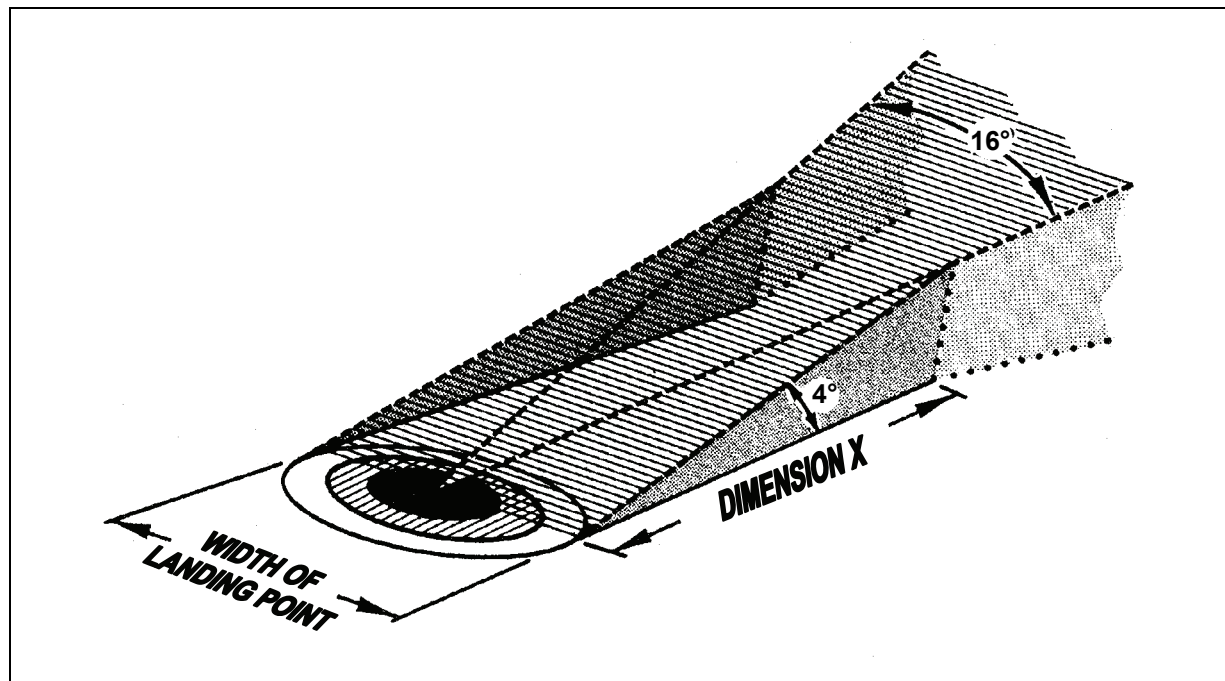

Figure 4-6. Approach and Exit Path
- Approach and Exit Path.** The approach and exit path is a 16-degree (277 mils) sector or arc extending outward and is measured from the center of the landing point (Figure 4-6). The V-shaped approach and exit path is depicted by the dashed and dotted line in the illustration. The 4-degree maximum obstruction angle applies to the entire area within the approach and exit path